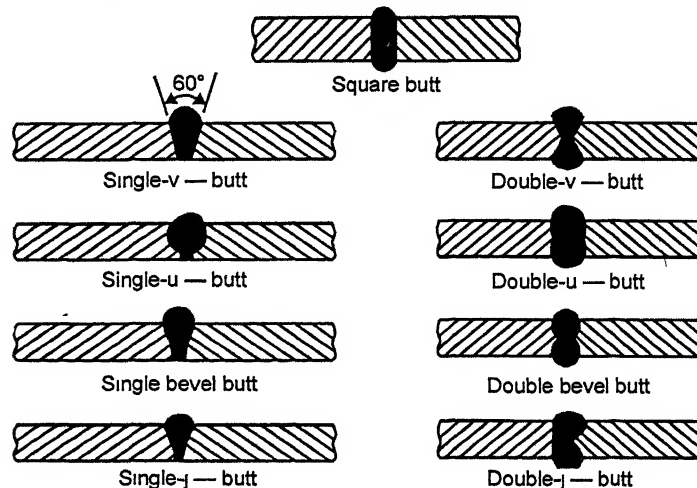

Fig. 13.15. Various types of butt joints.
- The various types of butt joints are shown in Fig. 13.15.